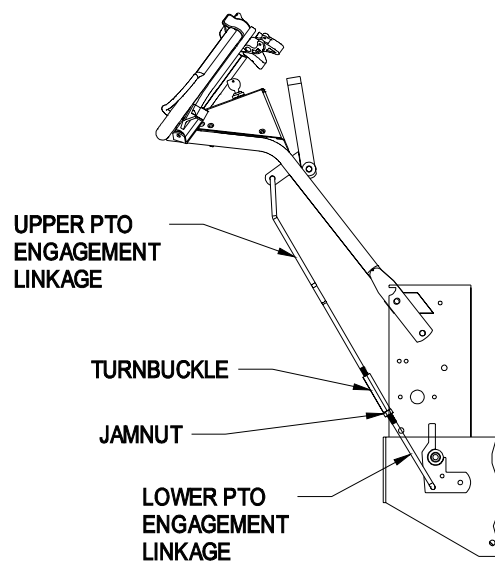

FIGURE 3
- 3.9 Connect the PTO engagement linkages. Loosen jam nut and remove turnbuckle from lower linkage. Screw turnbuckle onto both upper and lower linkages simultaneously. (See figure 3) Note that the threads on upper linkage are left hand. See 5.2.2 for linkage adjustment.